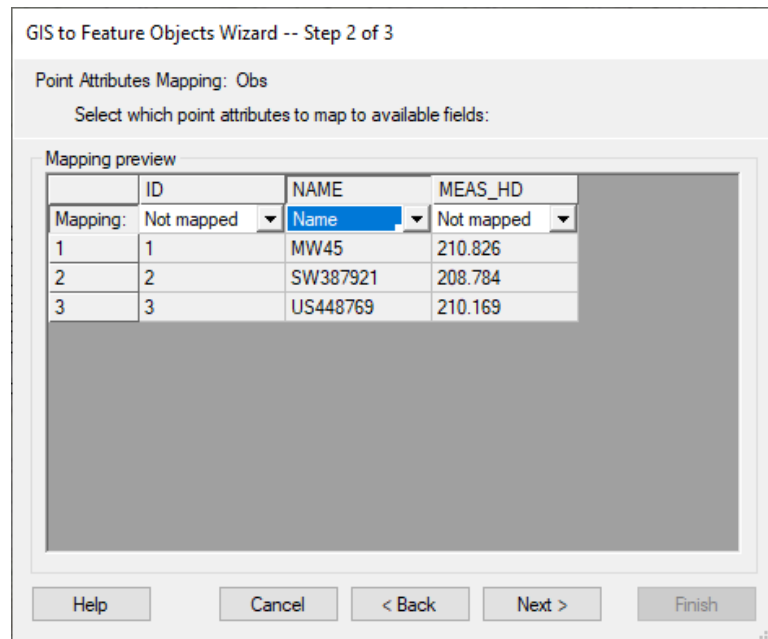

Figure 9 Mapping the Name
13. In the *Mapping preview* section on the *Mapping* row, select “Name” from the drop-down in the *NAME* column (Figure 9).